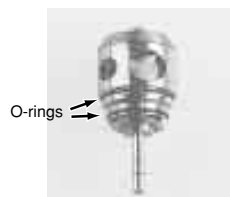

Fig.13
- Make sure that two O-rings (Fig.13) are in place on the cartridge.